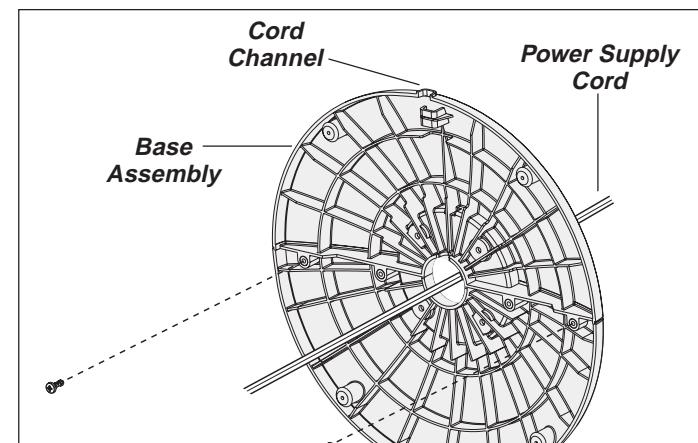

Figure 4
4. Secure the Base halves with (2) M4 X 13mm Screws. Thread the **Power Supply Cord** through the large hole in the **Base Assembly**. **NOTE:** The **Cord Channel** on the bottom of the **Base** should be towards the back of the Heater. (Figure 4)